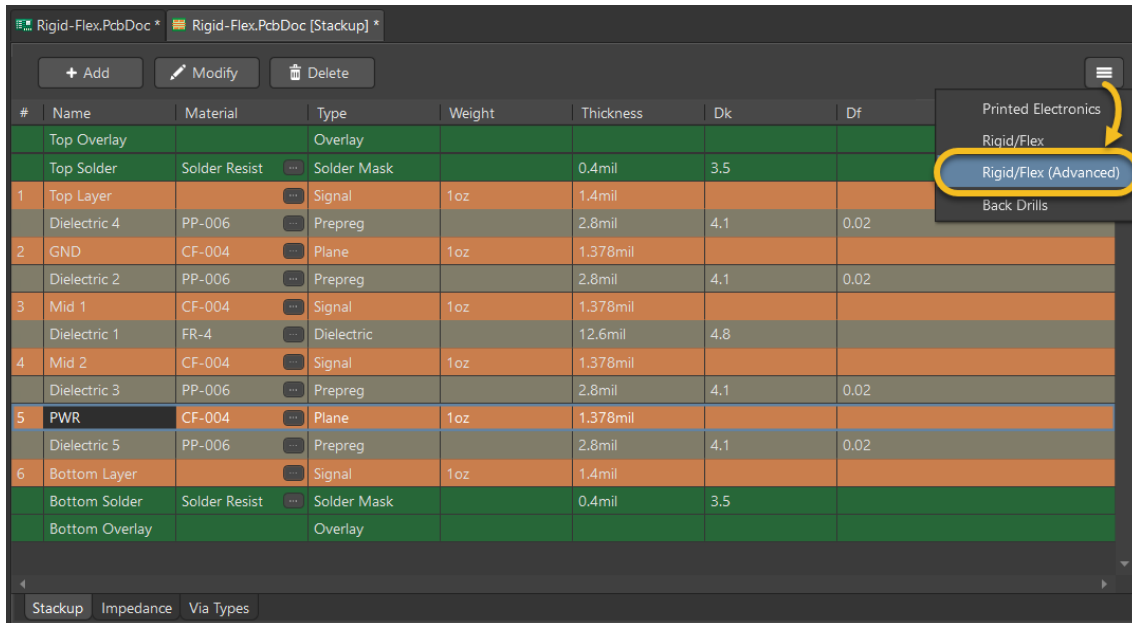

Figure 9. Advanced Layer Stack Manager View
28. Click the **Features** button in the top right corner and select **Rigid/Flex (Advanced)** as shown in Figure 9. This will allow us to add multiple layer stacks.